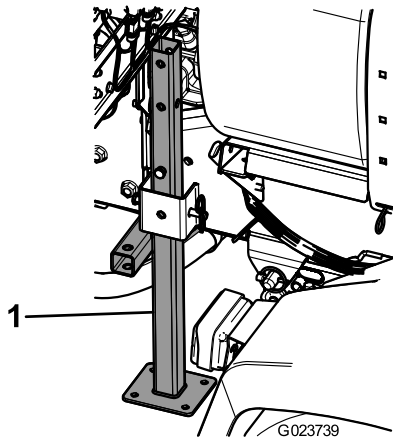

**Figure 50**
1. Insert the front jack stands upside down into the frame near the front tie-down points (Figure 50).